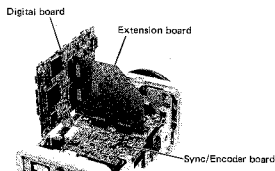

Fig. 2-5
- Fix two screws removing digital board as shown in Fig2-5.